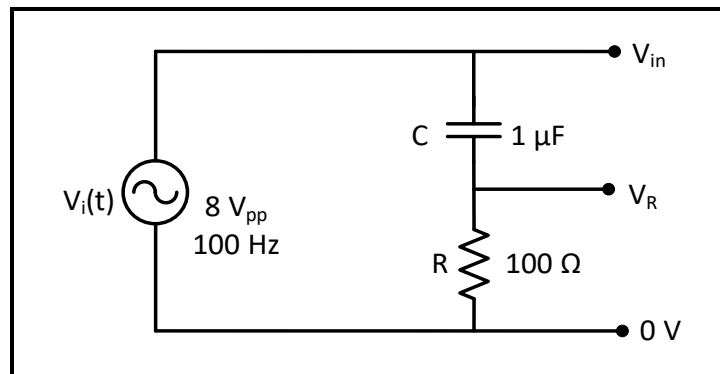

Figure 7.11
1. For the circuit shown in Figure 7.11:
1. Connect the circuit in Figure 7.11, set V_{in} to sinusoidal voltage at $8 V_{PP}$ and $f = 100$ Hz.